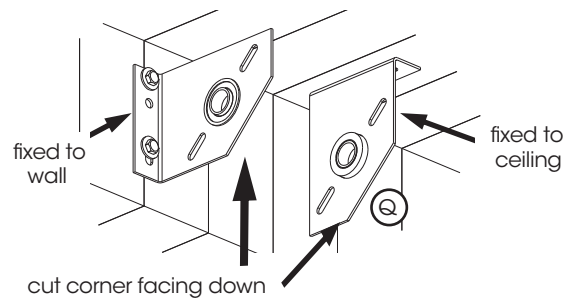

Fig: 3.5.2
- a) Determine whether the spring anchor bracket (Q) is going to be mounted to the wall or ceiling as per Fig 3.5.2 and ensure the cut corner of the bracket is facing down.
- b) Place the torsion bar (B) on the floor and slide the spring anchor bracket (Q) onto the torsion bar, positioning it approximately half way along.